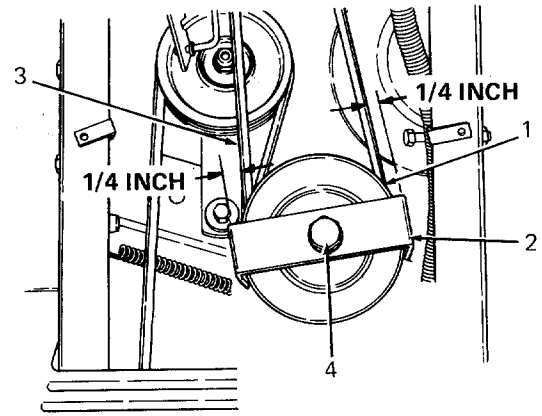

Figure 36
- While sitting on the tractor seat, look through the frame and locate the deck double drive pulley and belt guard. The double drive pulley belt guard should be positioned so that the PTO drive belt is the same distance (approximately 1/4 inch) from each edge of the belt guard. (Refer to Figure 36.)